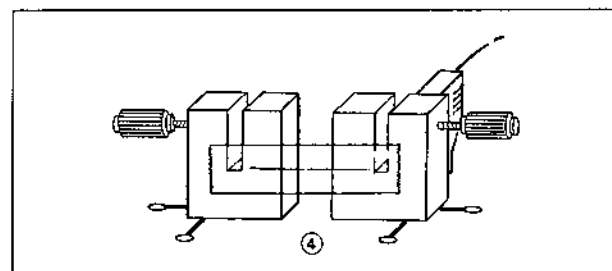

Fig. 3 Model of a fuse: steel wool thread (4) stuck to plug-in clamps by sellotape
6. We are going to use a thin piece of steel thread as a model of a fusible cutout (fuse). Use sellotape to stick it to the two plug-in clamps, as shown in fig. 3.
(1) Iron wire with paper laid on top and cardboard underneath
(2) Lead
(3) Position at which a jumper plug should be inserted to short-circuit the lamp C
(4) Steel wool thread, fastened in place as shown in fig. 3
(1) Iron wire, with cardboard underneath
(3) Bulb B, 12 V/3 W
(4) Fuse ► fig. 3